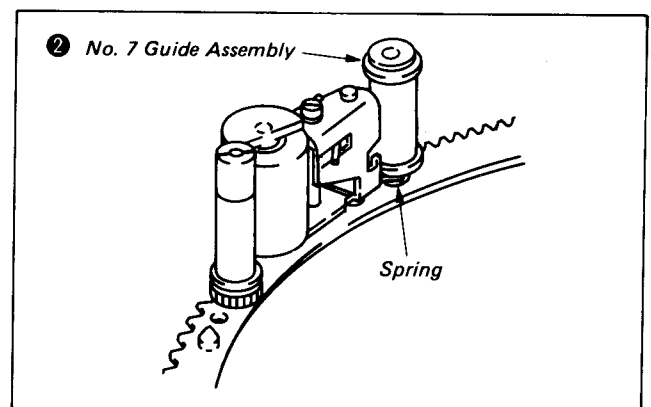

Fig. 8-25.
- 4) Rehook the spring on the No. 7 guide assembly ②. Confirm that the spring is hooked to part A at this time. (See Fig. 8-25.)